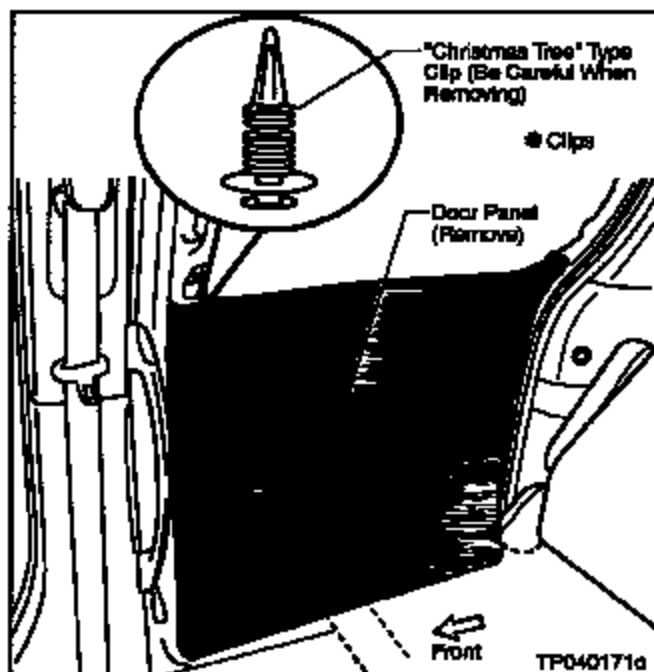

Figure J13
16. Remove the Sliding Door Inner Panel (see Figure J13) as follows: